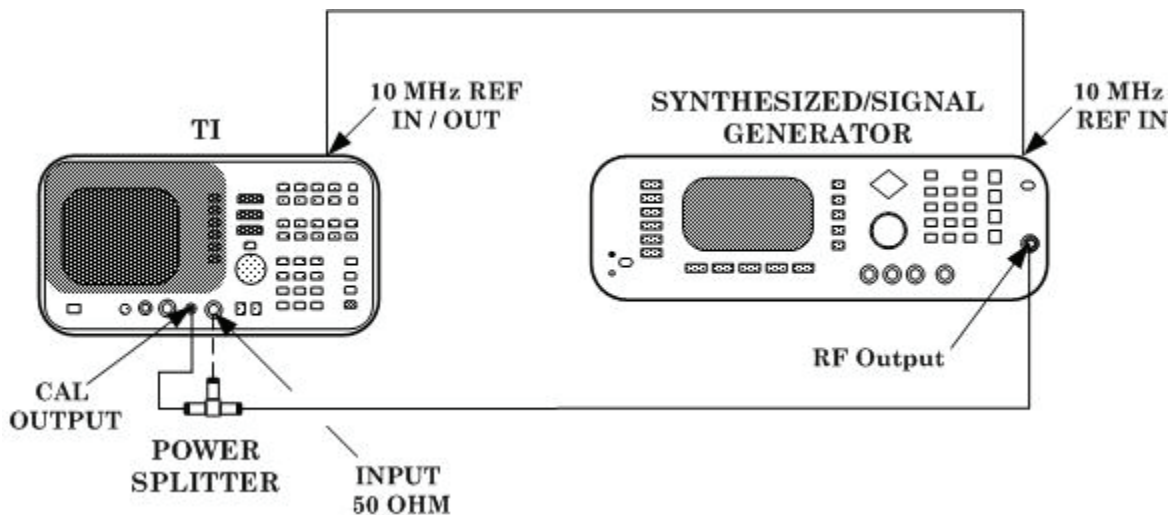

Figure 4. Frequency span accuracy - equipment setup.
(1) Connect equipment as shown in figure 4.